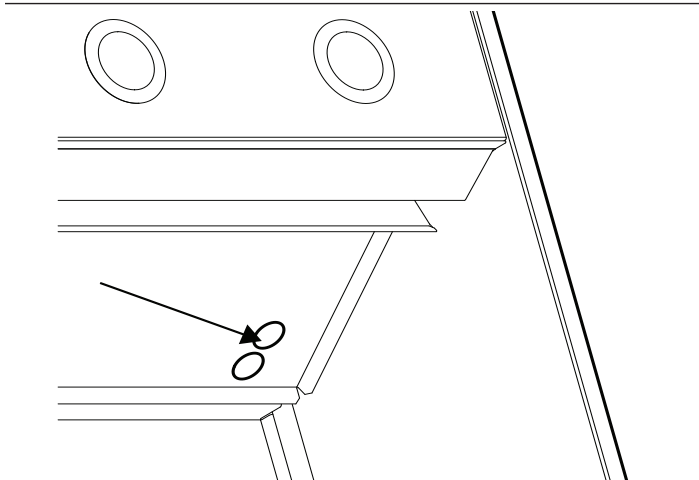

Figure 18: Wire Routing through Partition
- c) Run harness through core partition hole (*Figure 18*).